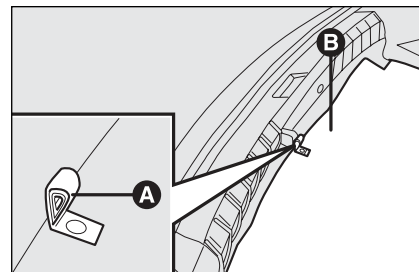
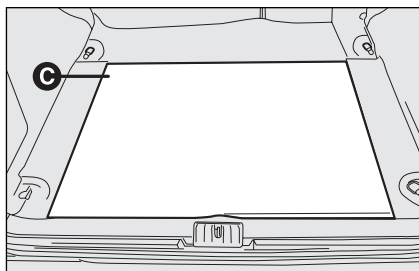
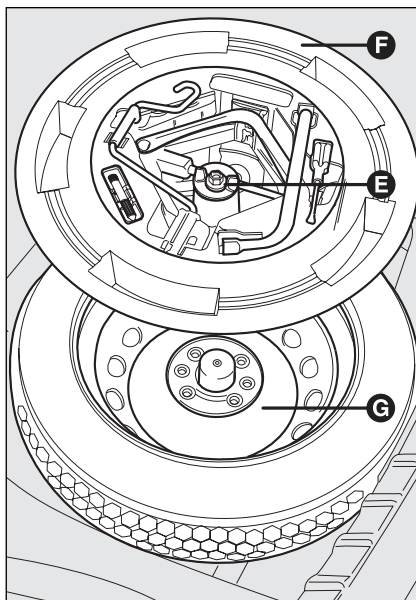
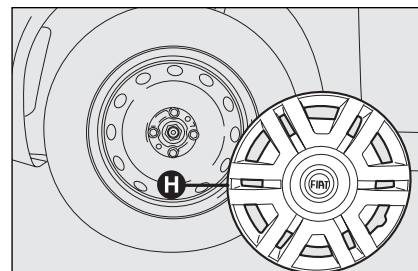

fig. 2
fig. 3
fig. 4
fig. 5
- ☐ Stop the car in a position that is not dangerous for oncoming traffic where you can change the wheel safely. The ground should be flat and adequately firm; turn the engine off and pull up the handbrake; engage first gear or reverse; use the handle **A-fig. 2** to remove the piece of stiff cover **B** (saloon versions) or **C-fig. 3** (Multi Wagon versions); loosen the clamping device **E-fig. 4**;
- take out the tool container **F**-fig. 4 and take it near to the wheel to be changed; take out the space-saver spare wheel **G**; remove the wheel cap **H**-fig. 5 (versions with steel rims), or remove the wheel hub cap (versions with alloy rims);